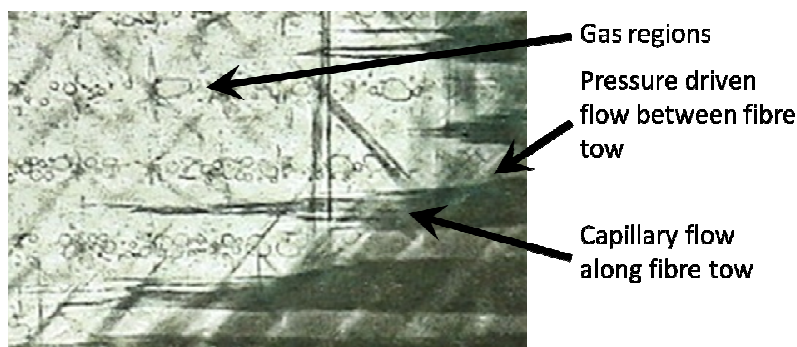

Figure 3: Enhanced image, showing section of Figure 2-B. Radial flow front showing dual scale flow with gaseous regions present
Figure 2: Radial Flow front progression on mould side of sandwich laminate during infusion with inlet back pressure of 500mBar. Images after 2 minutes (A), 7 minutes (B), and 17 minutes (C). Inset in B refers to Figure 3
High resolution images taken of the mould side of the panel show the fluid flow behaviour as it travels through the laminate and show the dual scale permeability of the fabric, with the pressure driven flow between the tows leading the capillary flow inside them. In Figure 3 gaseous regions can be clearly seen between the fibre tows. These gaseous regions result in dry patches present in the cured part. Experiments were undertaken with a partial vacuum applied at the inlet to lower pressure differential across the part. With the inlet at atmospheric pressure and full vacuum applied at the vent it took 26